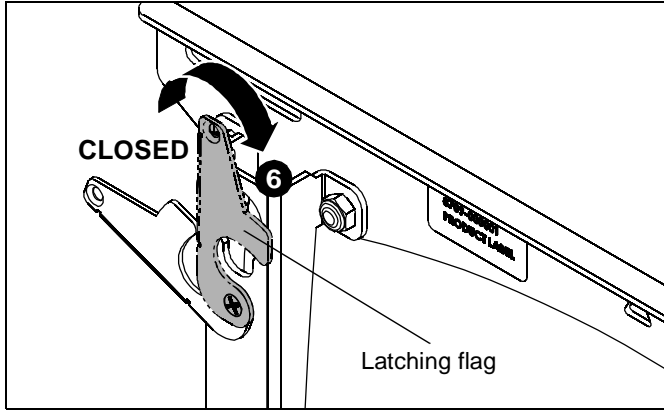

Figure 6
6. Move two latching flags on PST16 to the CLOSED position. (See Figure 6)